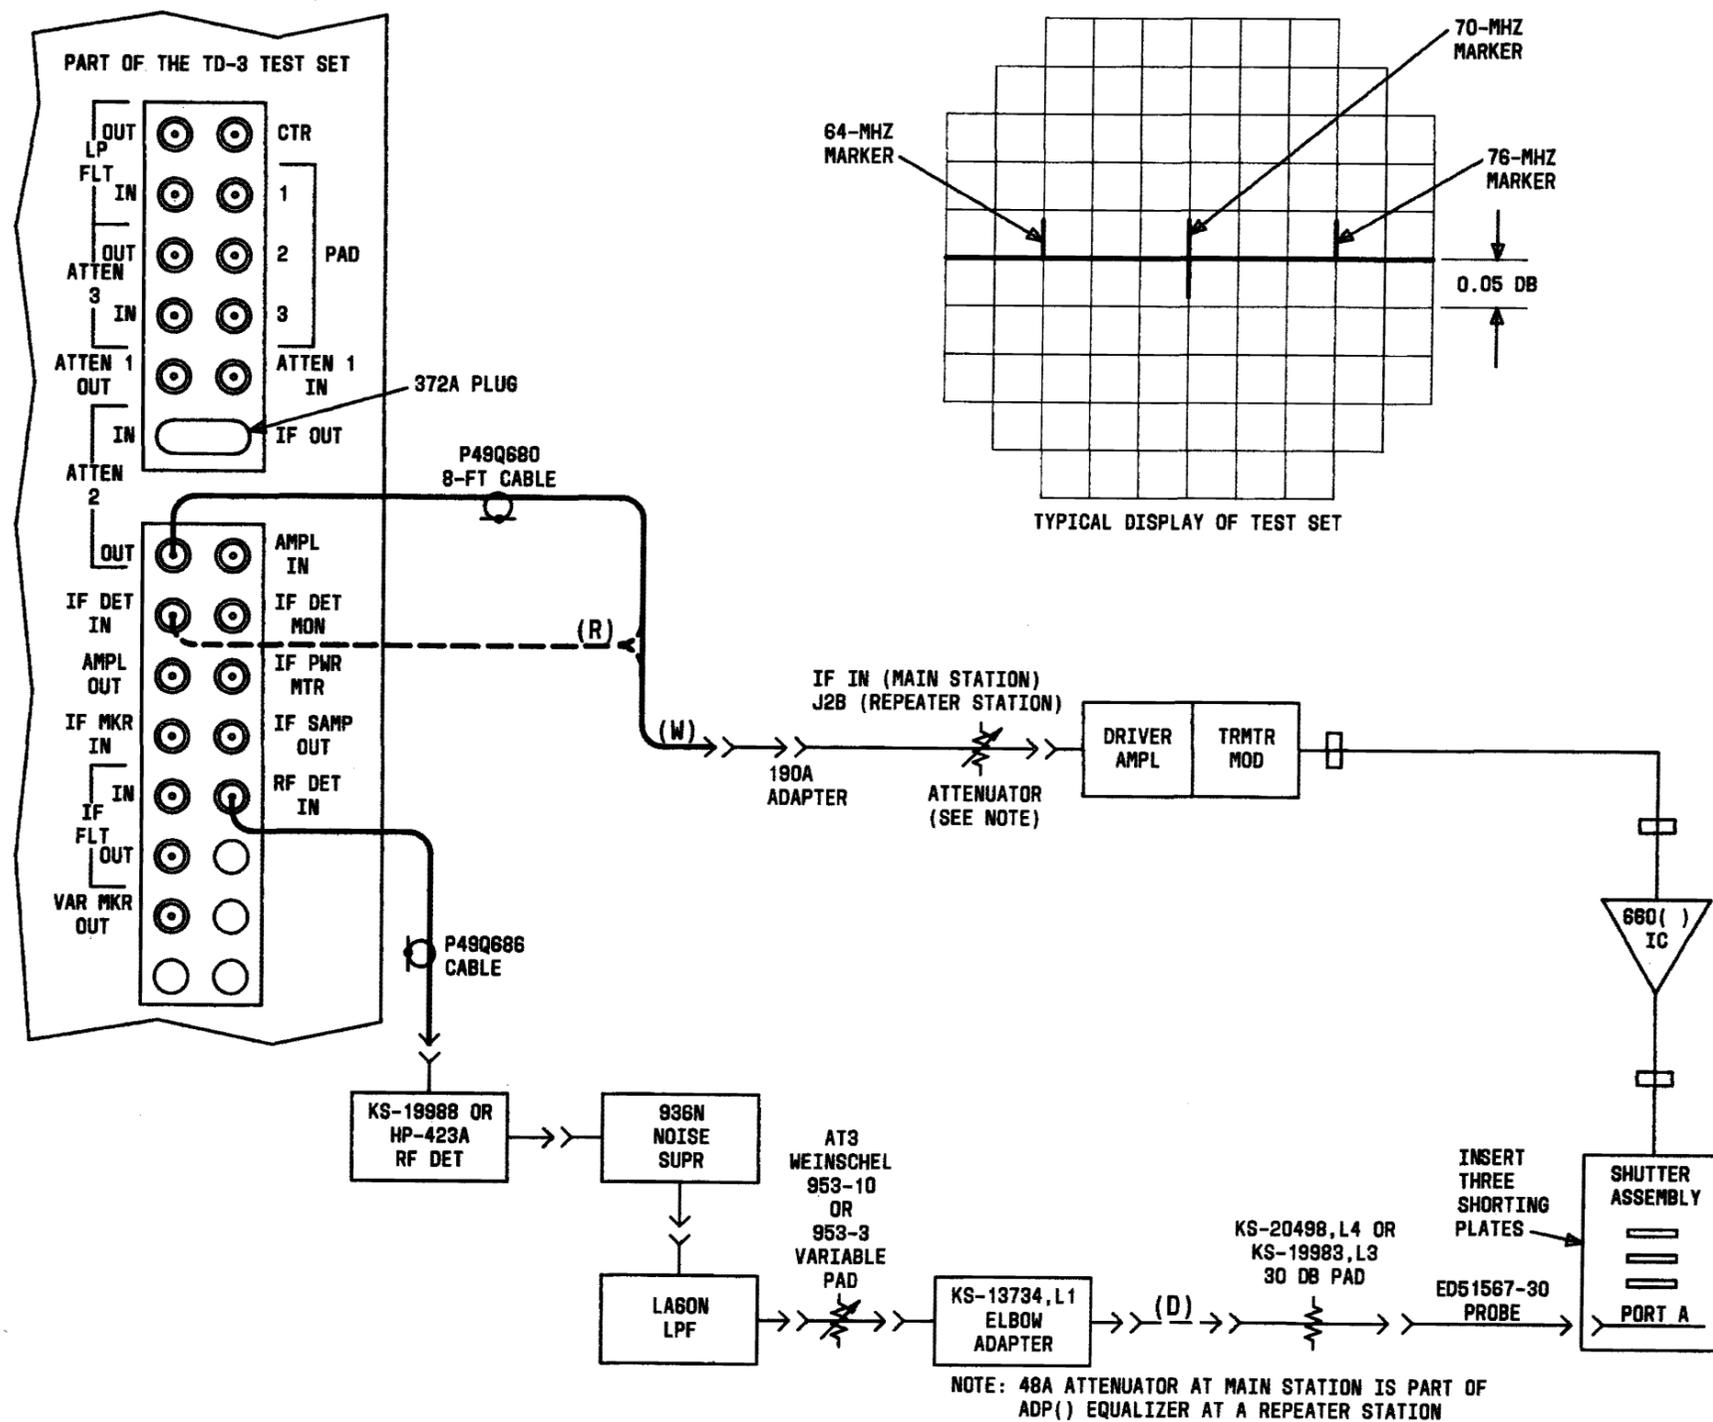

Fig. 9—Overall Transmitter Response Test for 45-Mb/s Operation
PREPARATION FOR TEST (FIG. 9)
- Set ATTEN 2 to 17 dB and connect option (R).
- Adjust the IF SWEEP WIDTH and IF CENTER FREQ controls on the test set control panel to obtain the oscilloscope display as shown in Fig. 9.